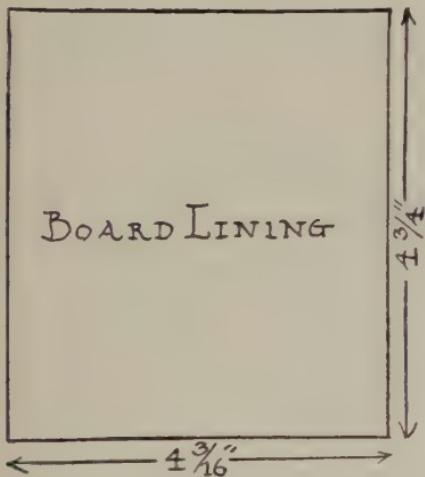

FIG. 70A—BOARD BACK LINING PAPER.
9. You will also need another piece of this same paper (like easel) for "lining-out" the reverse side of the face board, on the lower half which will be visible when the "easel" is opened out to support the "face board." This will need to be just a little smaller in width than the easel board, which is $4\frac{3}{8}$ ", and just long enough to go up under the glued piece of easel which will be attached to reverse of board. Your size will be $4\frac{3}{16}$ " x $4\frac{1}{4}$ ". (Fig. 70A.)